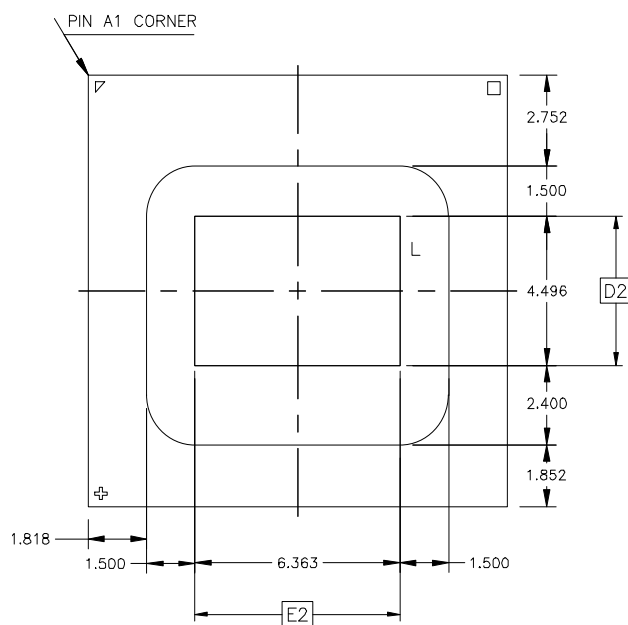
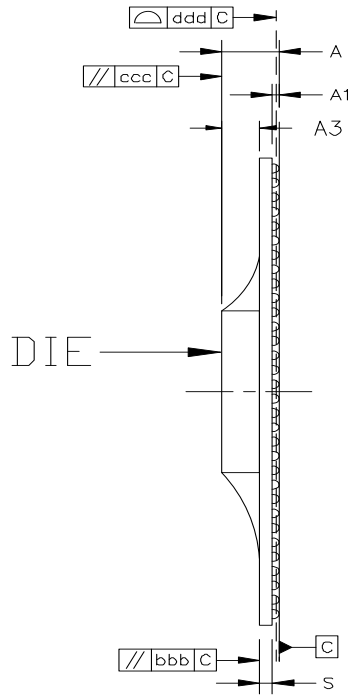
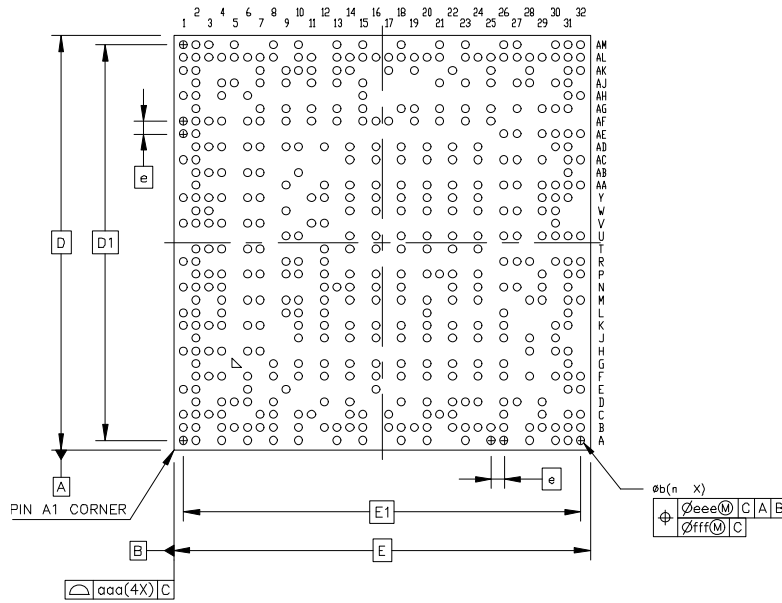

Figure 18. SL1640 Top View
Figure 19. SL1640 Side View
Figure 20. SL1640 Bottom View
**Note:** The drawings in Figure 18, Figure 19, and Figure 20 are not to scale.